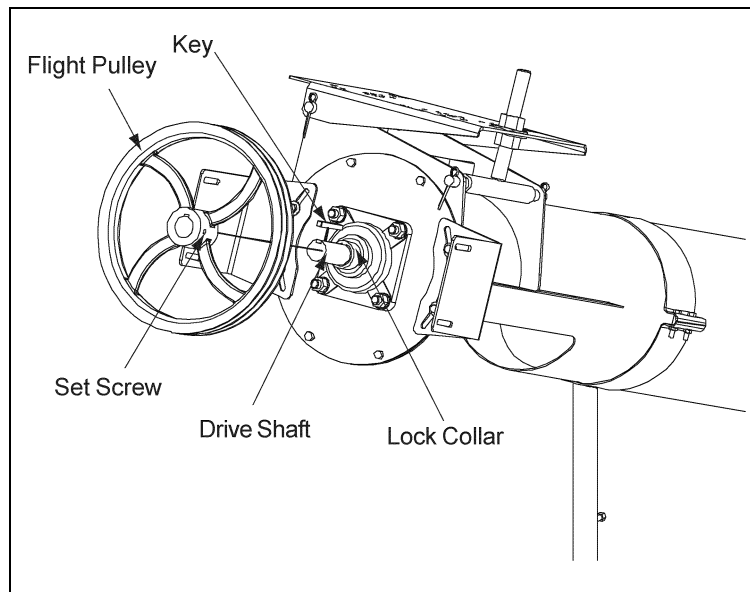

Figure 4J
- B. Place the pulley onto the Drive Shaft with the Set Screw side of the pulley facing away from the Bearing Plate (See Figure 4J). Position the pulley so that it is as close to the lock collar as possible, but not touching it.
- C. Once the pulley is appropriately positioned, tighten the setscrew with a hex head wrench to secure it to the drive shaft. (See Figure 4J)